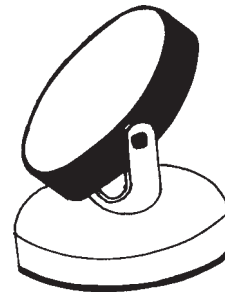

Fig. 3.7
- A mirror (Fig. 3.7) is the simplest illuminator. The two-sided mirror provides necessary illumination through reflection of natural or artificial light. It has two surfaces, one plain for artificial light and other concave for natural light. It is supported on two sides by a fork fixed on a mount in a way that permits free rotation.